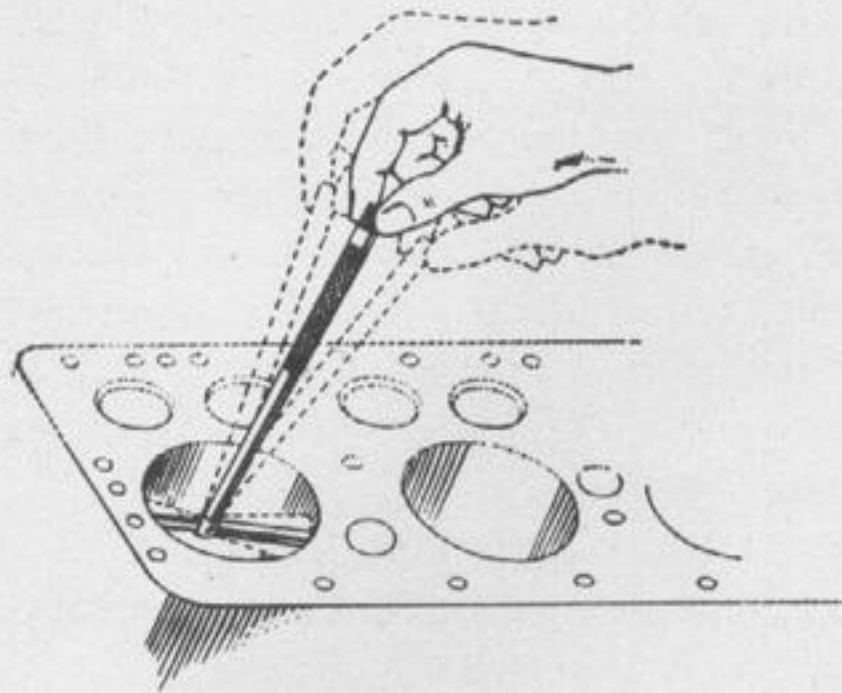

Figure 58—Measuring Bore
(4) Loosen the friction screw (Fig. 58). Spring tension will now cause the points to expand until stopped by the walls of the bore.
(5) Retighten the screw. Owing to the angle on which the tool was held, the distance between the points will be greater than the bore.
(6) To close the points to the actual size of the bore, move the gage as shown by the dotted line (Fig. 58). This movement will cause the gage to find center and will close the points. The friction screw will hold the setting.